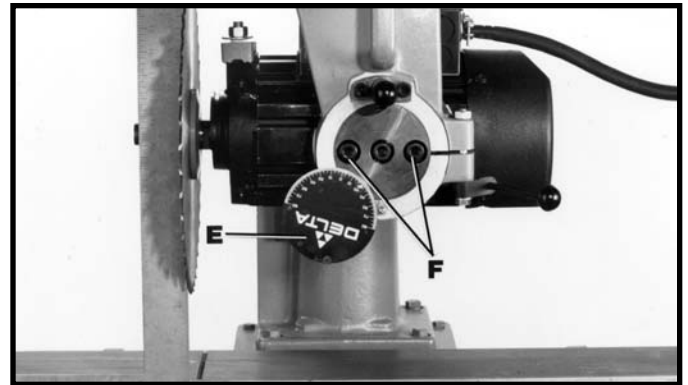

Fig. 37
6. If the above adjustment is not sufficient, remove scale (E) Fig. 37, and loosen the two socket head screws (F) located on each side of the center pivot screw. Rotate motor for approximate adjustment and retighten the two socket head screws (F).
7. Replace scale plate (E) Fig. 37, and repeat **STEPS 4** and **5** for final adjustment.